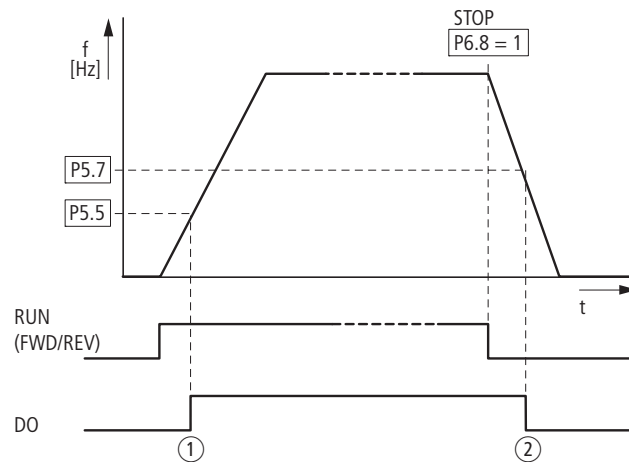

Figure 115: Mechanical brake actuation
- P5.5 < P5.7 (→ Figure 115): After the value of P5.5 is exceeded, the digital output will remain active (= brake vented) until the output frequency has exceeded the value of P5.7 as well. Once the value falls below the value of P5.7, the digital output can be activated again as soon as the value also falls below the value of P5.5.